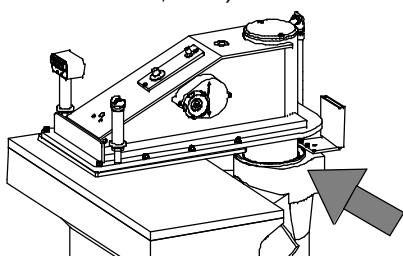

Fig. 20
- c) clean with a cloth (which leaves no thread) the seal collar on the column (for S/SE108: code 01002005; for S/SE116/120C: code 01010413; for S/SE120/122/124C/124/125C/125/125L: code 01001367, tav. 1) from residuals and dusts of cut materials every month (Fig. 20);